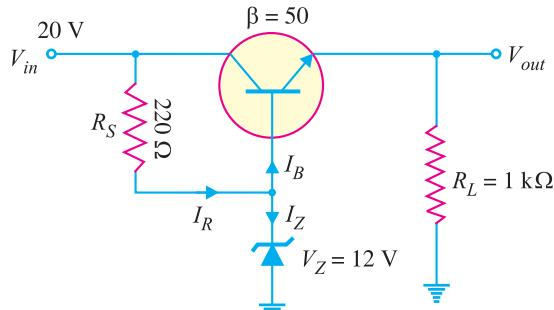

Fig. 17.15
**Example 17.14.** For the series voltage regulator shown in Fig. 17.15, calculate (i) output voltage and (ii) zener current.